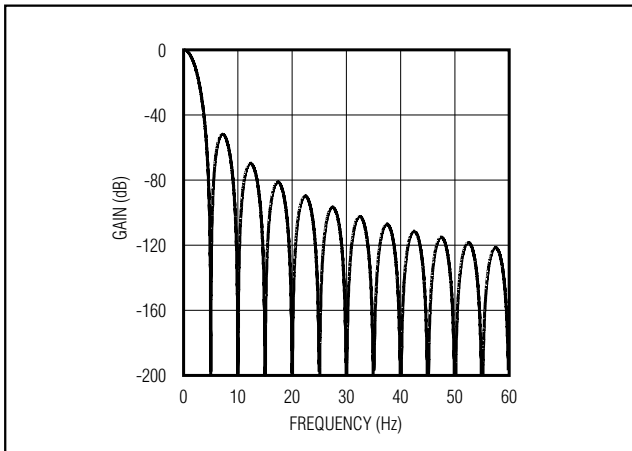

Figure 2. Frequency Response of the SINC4 Filter (Notch at 50Hz and 60Hz)
**Note 8:** Measured at DC by changing the power-supply voltage from 2.7V to 5.25V and measuring the effect on the conversion error with external reference. PSRR at 50Hz and 60Hz exceeds 120dB with filter notches at 50Hz and 60Hz (Figure 2).
Figure 2 shows the filter frequency response. The SINC4 characteristic -3dB cutoff frequency is 0.228 times the first notch frequency (5Hz). The oversampling ratio (OSR) for the MAX1496 is 128 and the OSR for the MAX1447/MAX1498 is 1024.